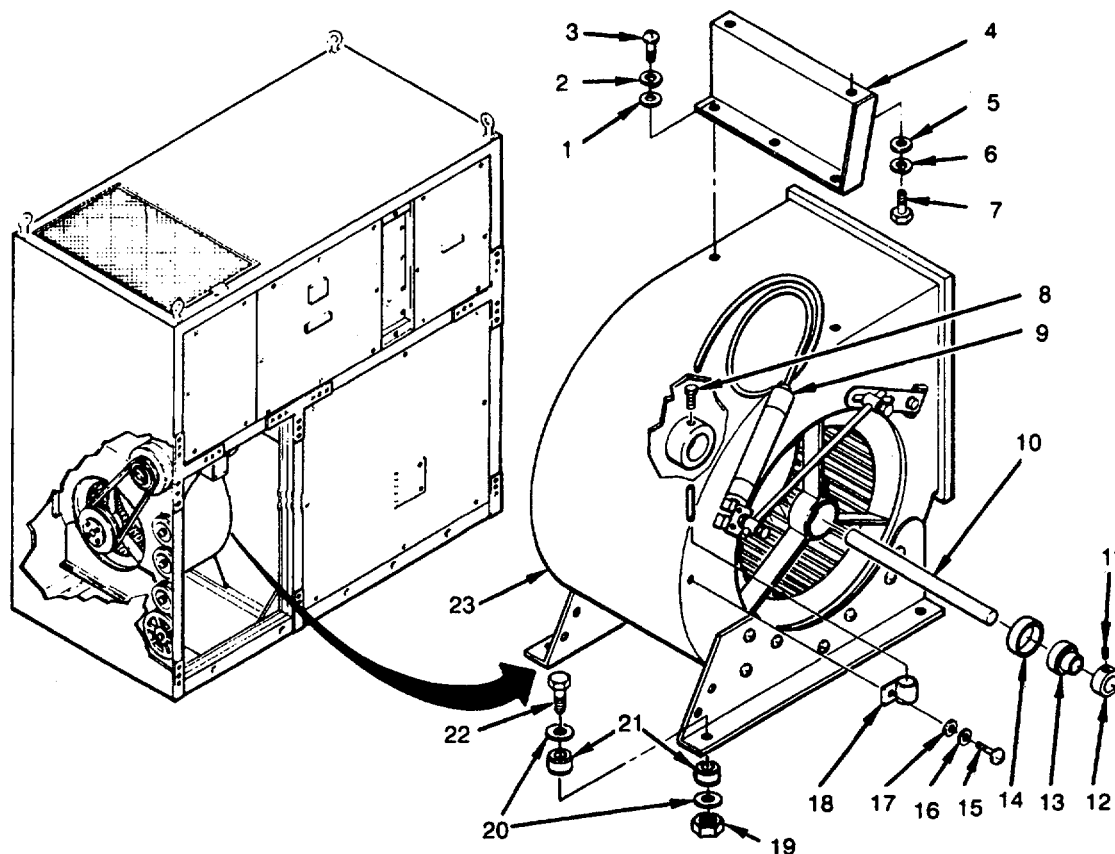

Figure 4-77. Circulator Fan (Condenser)
1. Inspect for noise or missing mounting hardware (see Figure 4-77).